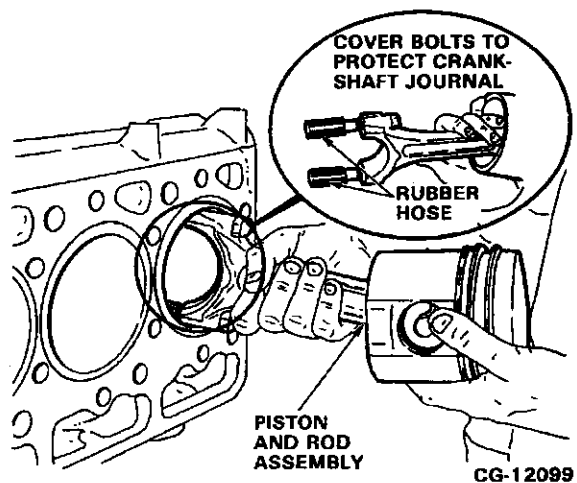

Figure 6.11. Remove Piston and Connecting Rod Assembly
- b. Push the piston and rod assembly from the cylinder bore using a wood or plastic handle. Once the piston rings are free of the cylinder bore, the assembly can be removed from the top of the crankcase. Refer to Figure 6.11.